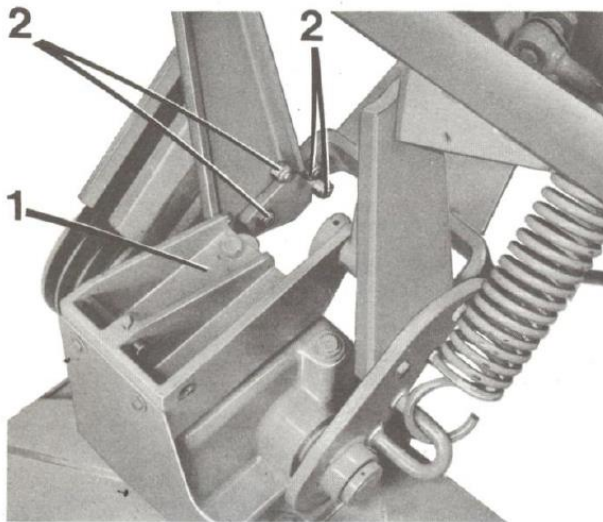
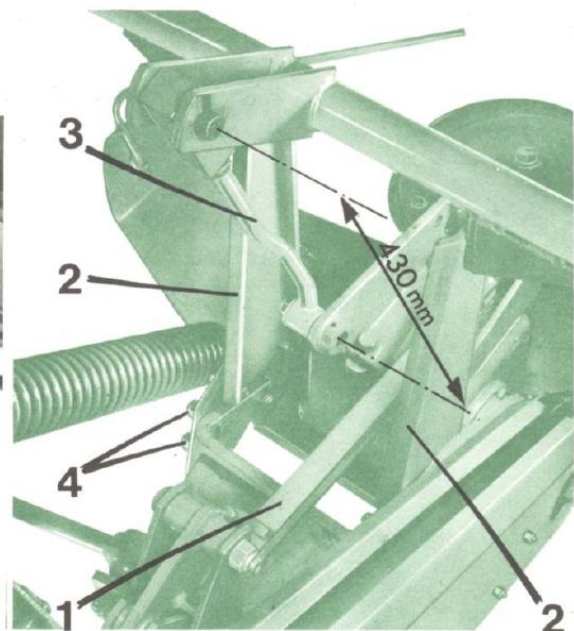

FIG. 14
FIG. 15
1. First replace the lifting bearing with a special bearing (1- fig. 14) supplied with the protector;
2. Adjust the lifting link (1 - fig. 15) according to the adjustments and settings described on pages 8 and 9 (see instructions).
3. Fit the two protective supports (2 - fig. 15) on the hinge arms.
6. Fit the folding tie rod (3 - fig. 15) with its bushings and adjust its length initially 430 mm (see figure 15). Complete this setting as follows:
IMPORTANT when folding the bar up for transport as shown in fig. 17, make sure that there is no interference between the various parts of the machine and the assembly screws (2 fig. 14 and 4 fig. 15).
As a precaution, when fitting the protector, fit the two screws 4 fig. 15 so that the nuts are on the outside.